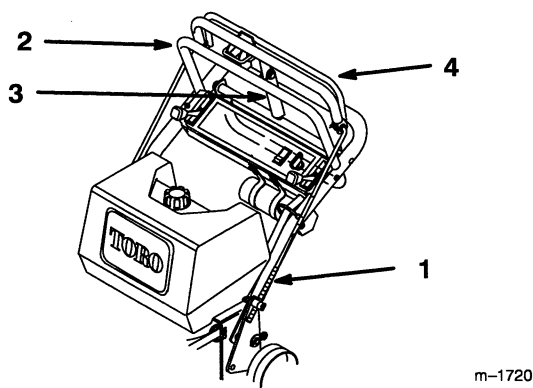

Figure 8
3. Check the gap between upper control bar and fixed bar with wheel drive fully engaged. Gap should be approximately 1 to 1-1/4 in. (25–32 mm) (Fig. 8).
5. Check parking brake adjustment. Brake rods should be adjusted so parking brake lever is snug when swung into position against the fixed bar while pulling back on upper control bar (Fig. 8).